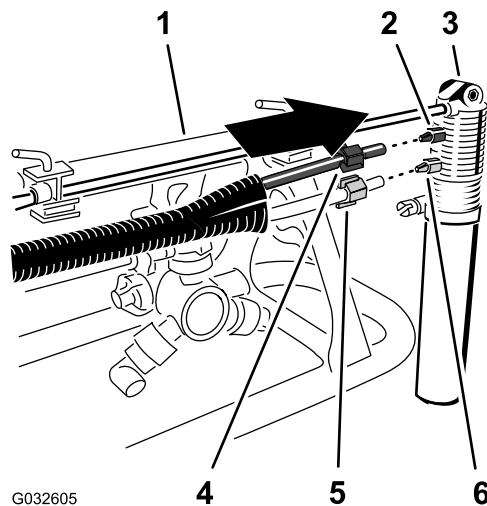

Figure 21
1. Slip the blue compression nut over the ends of blue tube and the white compression nut over the clear tube (Figure 21).
2. Align the end of the clear tube with the white compression nut to the white fitting of the foam-marker nozzle, and tighten the compression nut by hand (Figure 21).
3. Align the end of the blue tube with the blue compression nut to the blue fitting of the foam-marker nozzle, and tighten the compression nut by hand (Figure 21).